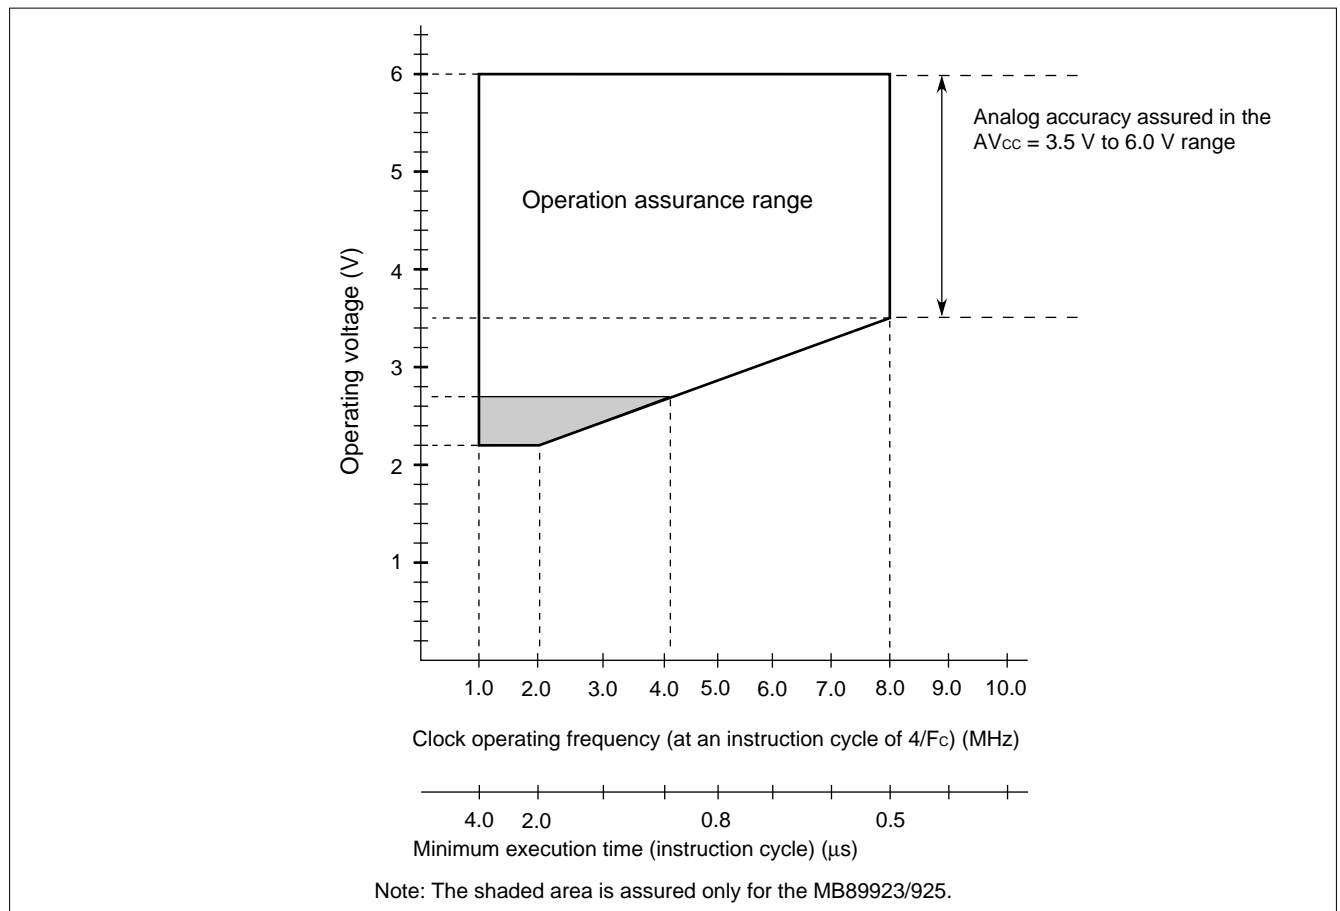

Figure 1 Operating Voltage vs. Clock Operating Frequency
*1: These values vary with the operating frequency, instruction cycle, and analog assurance range. See Figure 1 and "5. A/D Converter Electrical Characteristics."
Figure 1 indicates the operating frequency of the external oscillator at an instruction cycle of 4/F_C. Since the operating voltage range is dependent on the instruction cycle, see minimum execution time if the operating speed is switched using a gear.